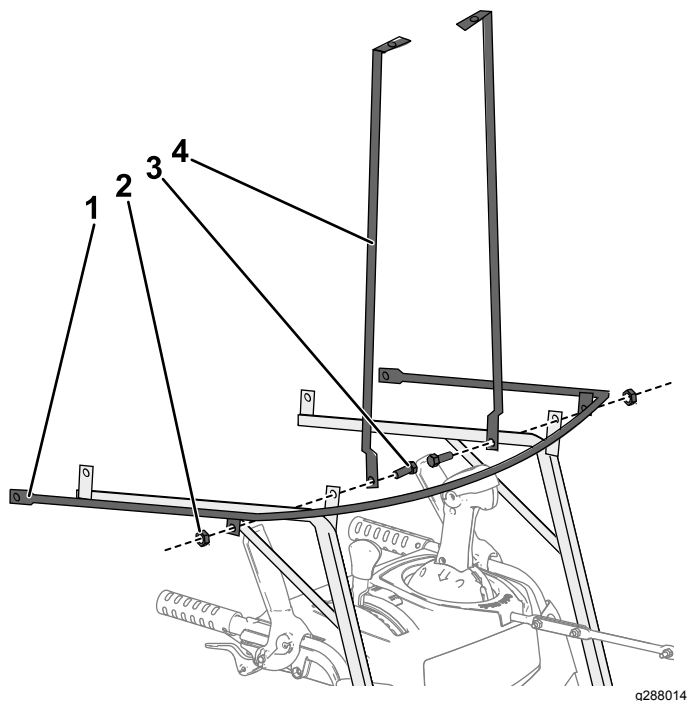

Figure 2
3. Install the front posts and horizontal frame onto the left and right mounting brackets as shown in Figure 2.